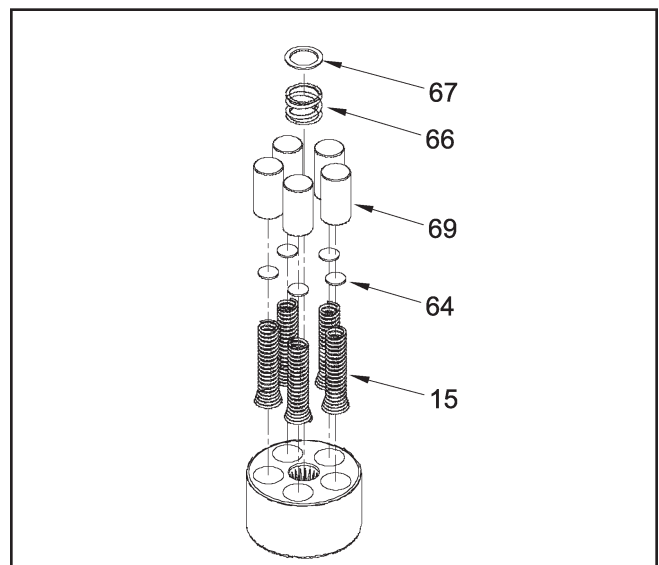

Figure 13
10. **(See Figure 13)** Check each piston for proper operation by pressing the pistons in and releasing them in the block bore. Disassemble the pump cylinder block. Check for piston/block wear in the cylinder bore. Inspect the pistons (69), piston springs (15), spring (66), washer (67) and piston seats (64) for excessive wear or damage. NOTE: Piston seats may be held in place in the piston by residual oil.